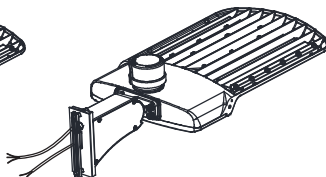
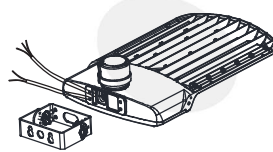

Figure 6
Figure 7
Step 2: the side I Install the bracket on the fixture, then cover id and tighten it. (Figure 6)
4. YOKE MOUNTING (YM)
Step 1: Remove the bracket mounting screws on the fixture and run the wires through the bracket. (Figure 7)